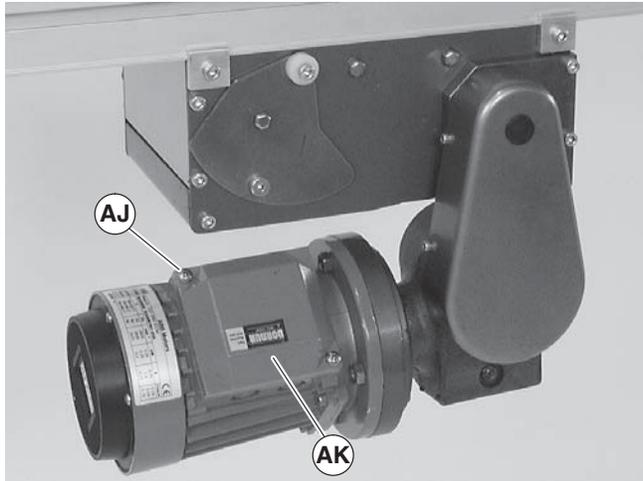

Figure 19
- Loosen terminal box screws (Figure 19, item AJ) and remove cover (AK).